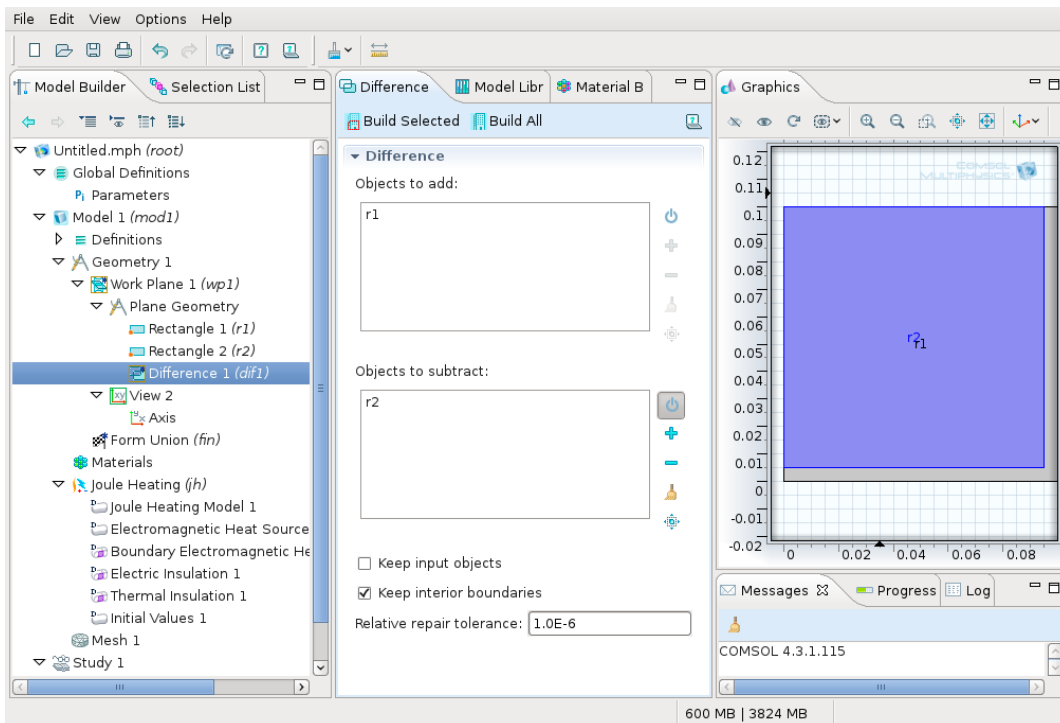

Figure 12: The subtrahend.
- after that use the method described above to select smaller rectangle  $r2$  as a subtrahend (Fig. 12);